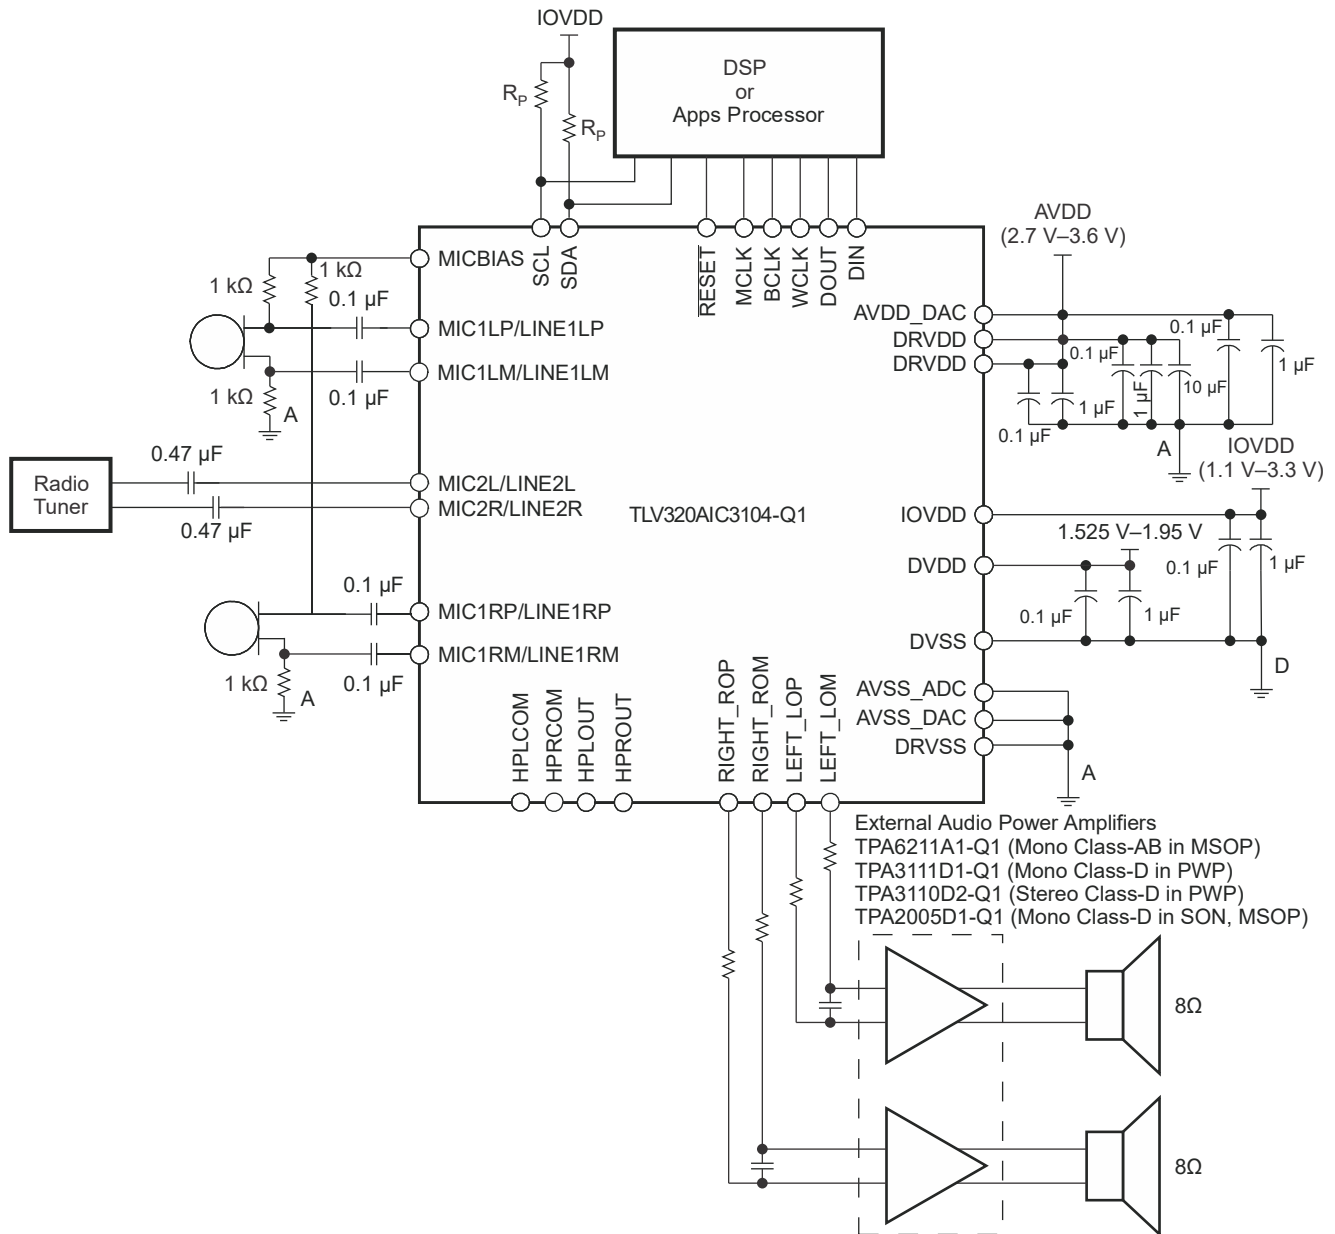

Figure 10-1. Typical Connections With Differential Inputs for External Speaker Driver
- Use Figure 10-1 as a guide to integrate the hardware into the system.